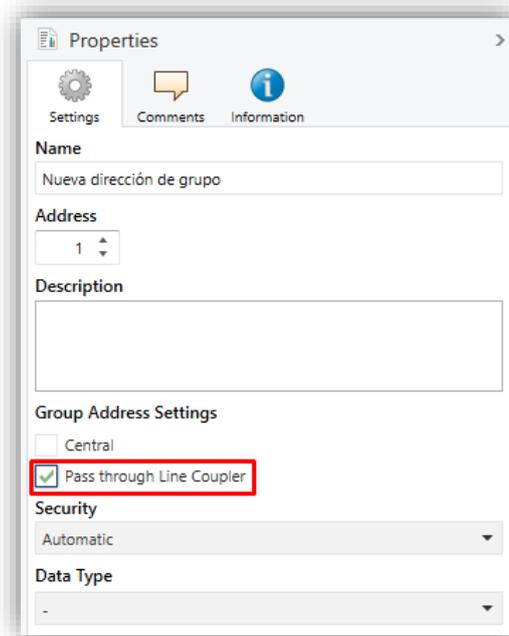

Figure 4 ETS Option to Force Passing a Group Address through the Line Coupler.
**Example:** if the line coupler has been parameterised to filter group addresses from both lines, when it receives a telegram from the mainline destined to a group address (e.g., 2/5/13) it will check that there is a device in the line with objects that have been assigned such group address (or that such address has at least been marked in ETS to pass through the line coupler; see Figure 4). If so, then the line coupler will let it pass. Otherwise, it won't be transferred to the line. The same would also apply to the inverse case (a telegram originating in the line).